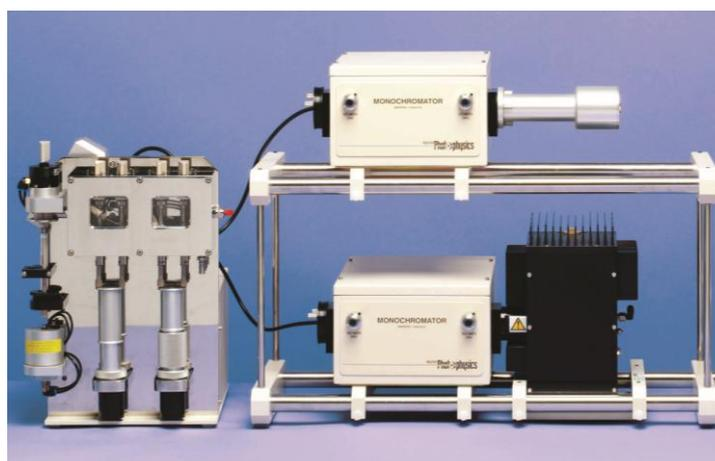

Figure 2.52: the monochromator positions for steady state fluorescence emission
1) Install the emission light guide fitting in the upper right hand port of the cell block (assuming that the excitation light guide is connected to the lower right port for a 2 mm excitation path). Move the fluorescence detector to the opposite port of the emission monochromator, blanking off the rear port on the cell block using the circular plate (Figure 2.52).